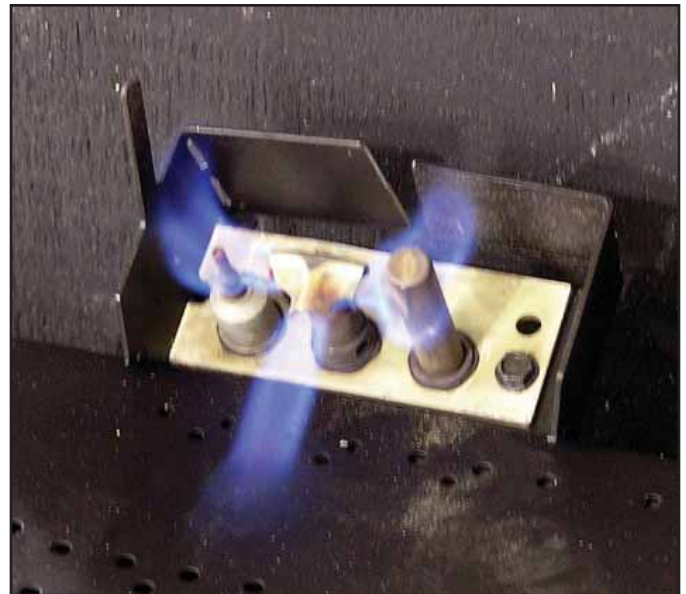

Figure 3.1 Standing Pilot Flame Patterns
- Inspect pilot flame pattern and strength. See Figure 3.1 or Figure 3.2 for proper pilot flame pattern. Clean or replace orifice spud as necessary.